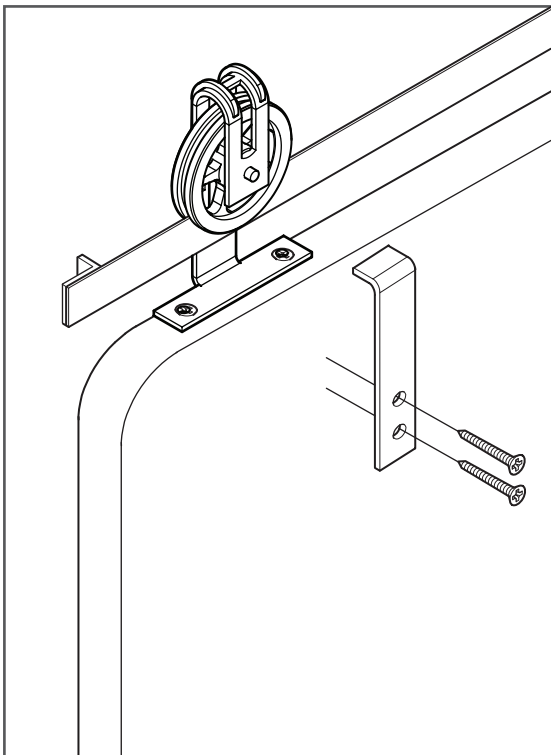

Figure 10
21. Install the bracket to the back of the door with 2 phillips screws (provided) using a drill with a phillips bit (Figure 10).